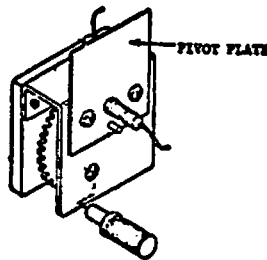

FIGURE 5-16 FIRST CHARACTER POSITION ADJUSTMENT
- 1) Place adjustment lug through pivot plate hole (Figure 5-16) and into timing disk hole. Check for a distance of $1.18'' \pm .01''$ ($3 \text{ cm} \pm .025 \text{ cm}$) between carriage assembly and left side frame.
- 2) Move carriage $1.18'' \pm .01''$ ($3 \text{ cm} \pm .025 \text{ cm}$) from left side frame (Figure 5-16, 17) and tighten timing disk set screw.